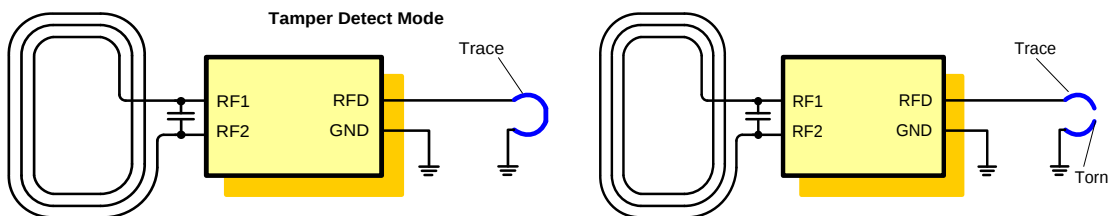

Figure 4: SIC43NT operating in tamper evident detection mode
- Tamper evident detection (Figure 4)